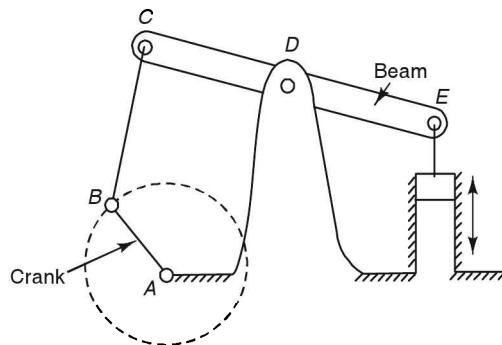

FIGURE 7.20 Crank and lever mechanism.
- (c) *Beam engine mechanism*: This is also called a crank and lever mechanism. When the crank AB rotates about the fixed centre A , the beam CDE oscillates about the fixed centre D and the vertical reciprocating motion of the piston is transmitted to end E of the beam (Figure 7.20). The reciprocating motion at point E is converted into rotating motion of the crank AB .